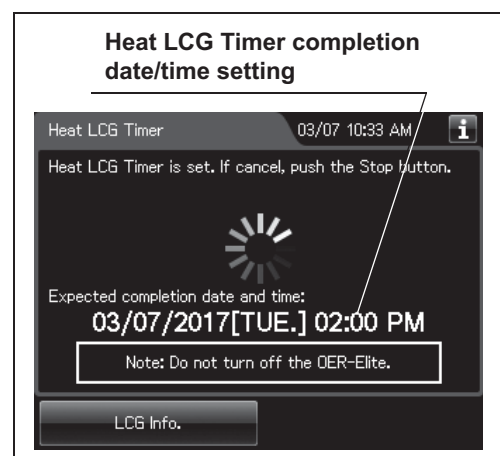

Figure 7.9
- 2 The touch screen display changes as shown Figure 7.9 and appear to turn off after 5 minutes of inactivity, the touch screen appears to turn off and the Heat LCG Timer enters the standby mode.